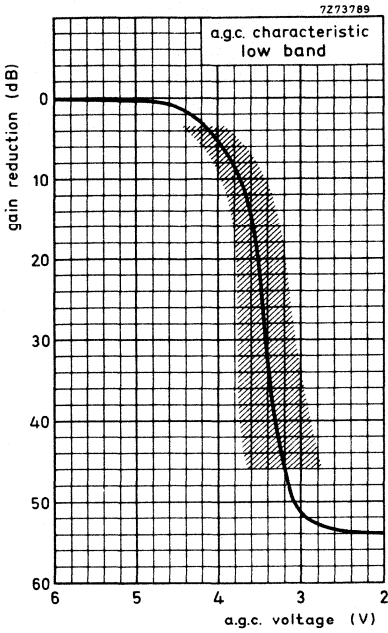

Fig. 5.
**A.G.C. voltage (Figs 5 and 6)**